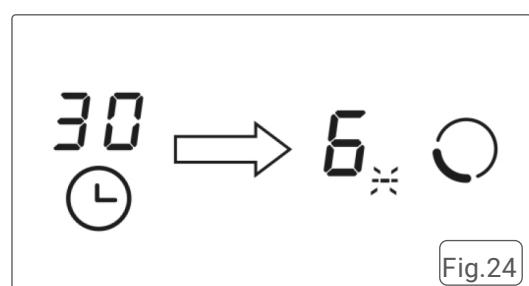

Fig.24
2. When the countdown for a zone finishes, that cooking zone will switch off automatically. The timer display will then show the next shortest remaining time, and the dot of the corresponding zone will start flashing. Fig.24